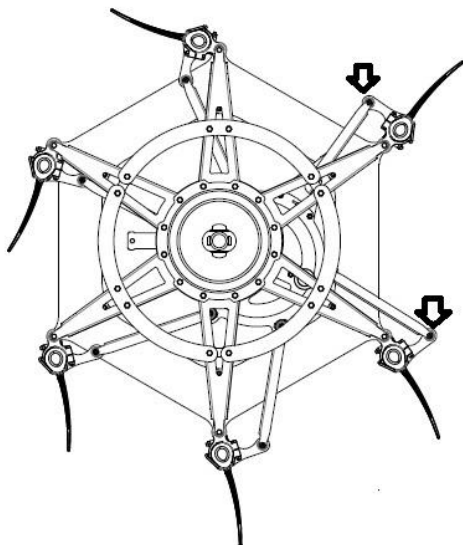

Figure 205
13. The link from the cam to the reel bat control arm Figure 205 must be installed properly. If the hardware is not install properly control arm link wear is possible.